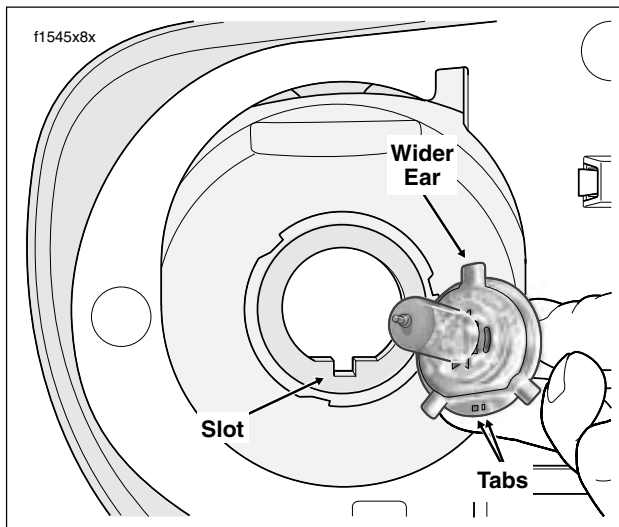

Figure 8-31. Install New Bulb in Bulb Housing
1. Install **new** bulb in bulb housing. Orient bulb so that wider ear on backplate is topside and then push bottom of backplate so that tabs on outboard side fit snugly in slot of bulb housing. See Figure 8-31.